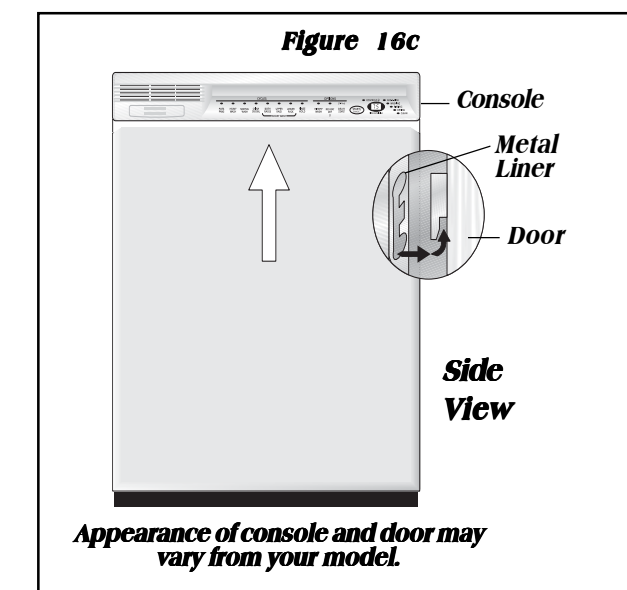

Figure 16c
5. When ready to replace door, fit the slots on each side of top door edge over the tabs on the metal liner. Push on sides to insure the door is flat. Push up from bottom until there is no gap between door and console. See Figure 16c.